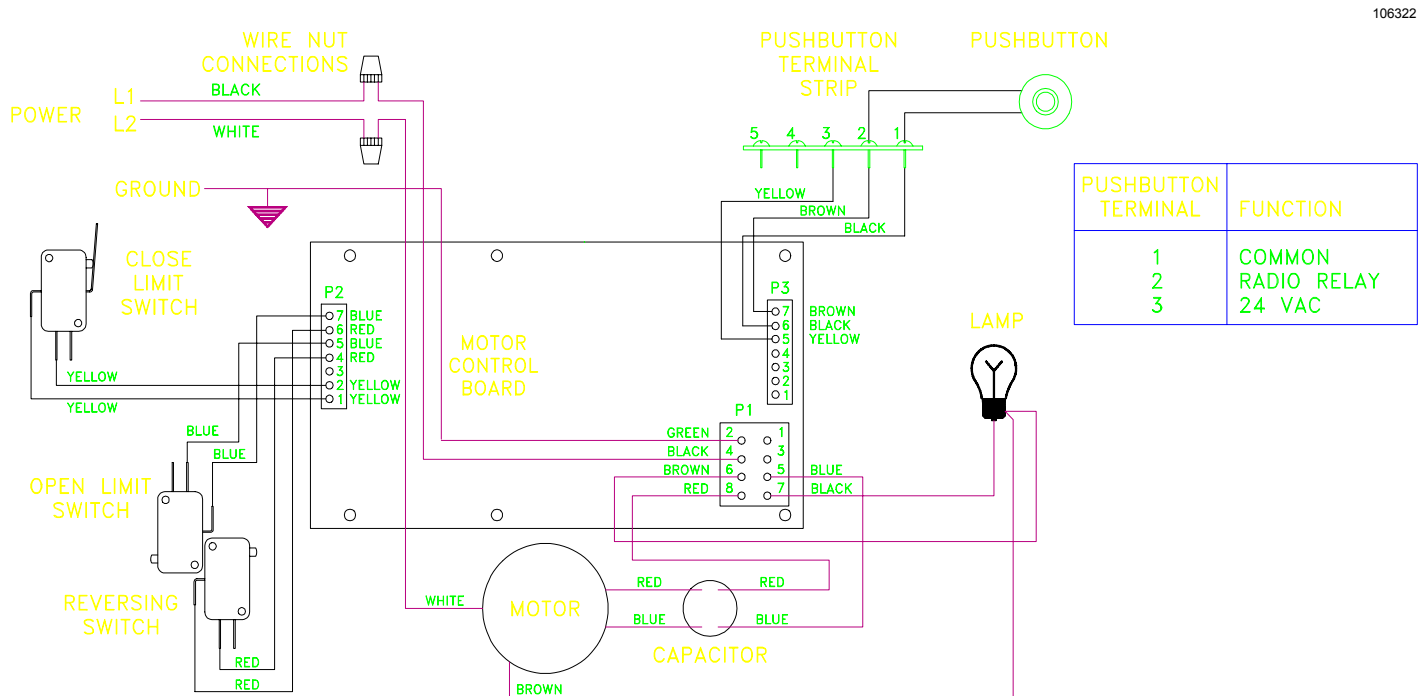

Figure 1: Schematic for 2000/2500 (pre Nov. 1992) and IIA Operators
3. Install the 108733 MCB and replace the harnesses as shown in the schematic in Figure 1 below. Align the pushbutton harness (brown-black-yellow) over the 3 pins on connector P3 that are farthest away from the eight pin high voltage harness P1.